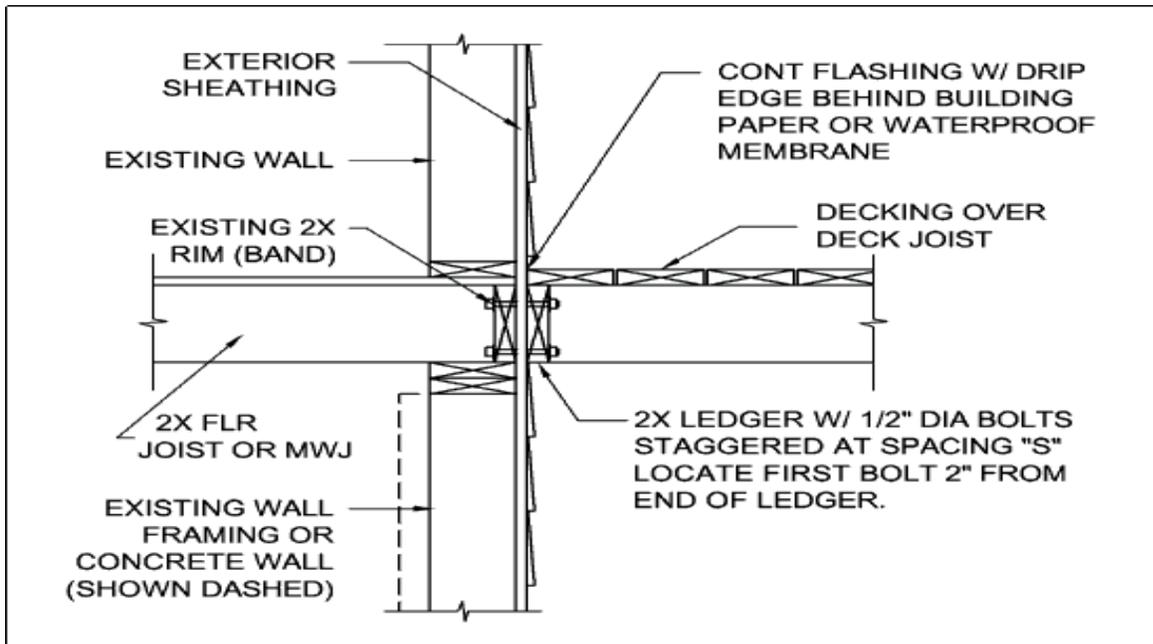
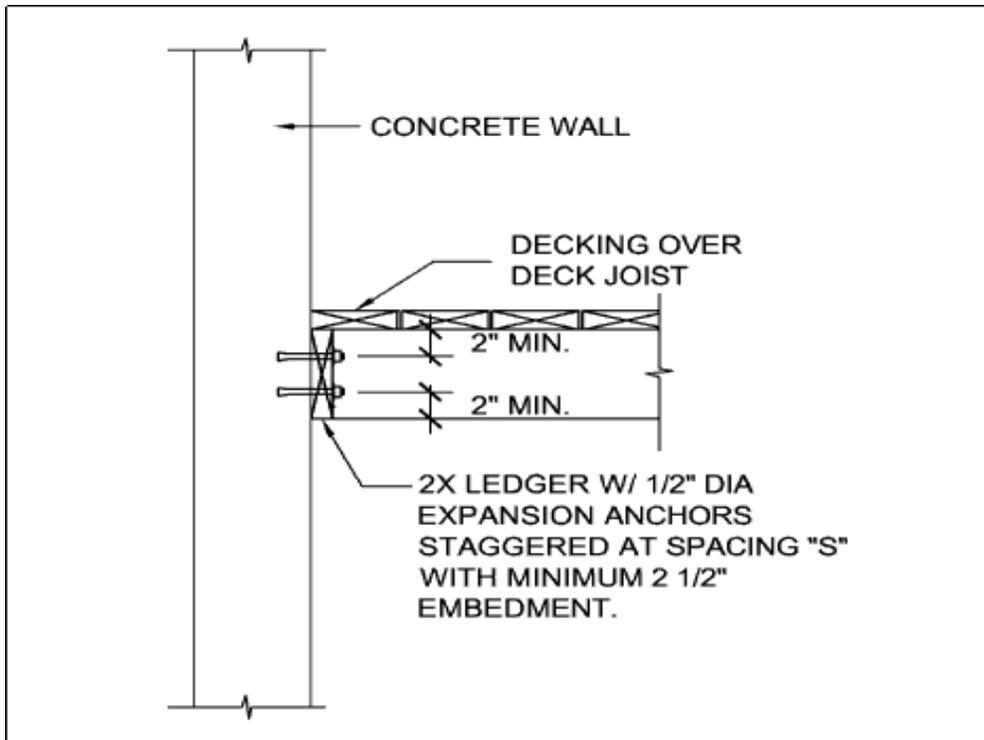

Figure 6 – Attachment of Ledger Board to Band Board with Bolts.
Figure 7 – Attachment of Ledger Board to Concrete Wall.
7. Determine if you will be connecting to a band board (rim joist), see Figure 5; a concrete wall, see Figure 6; or a sill plate, see Figure 7. Note: This document cannot be used with masonry walls.
**Expansion (Wedge) Anchors:** Use expansion anchors when attaching a ledger board to a concrete wall as shown in Figure 7. Bolt diameters of the anchors shall be a minimum of  $\frac{1}{2}$ "; in some cases, this may require an anchor size of  $\frac{5}{8}$ ". Minimum embedment length shall be  $2\frac{1}{2}$ ". Expansion anchors must have washers.